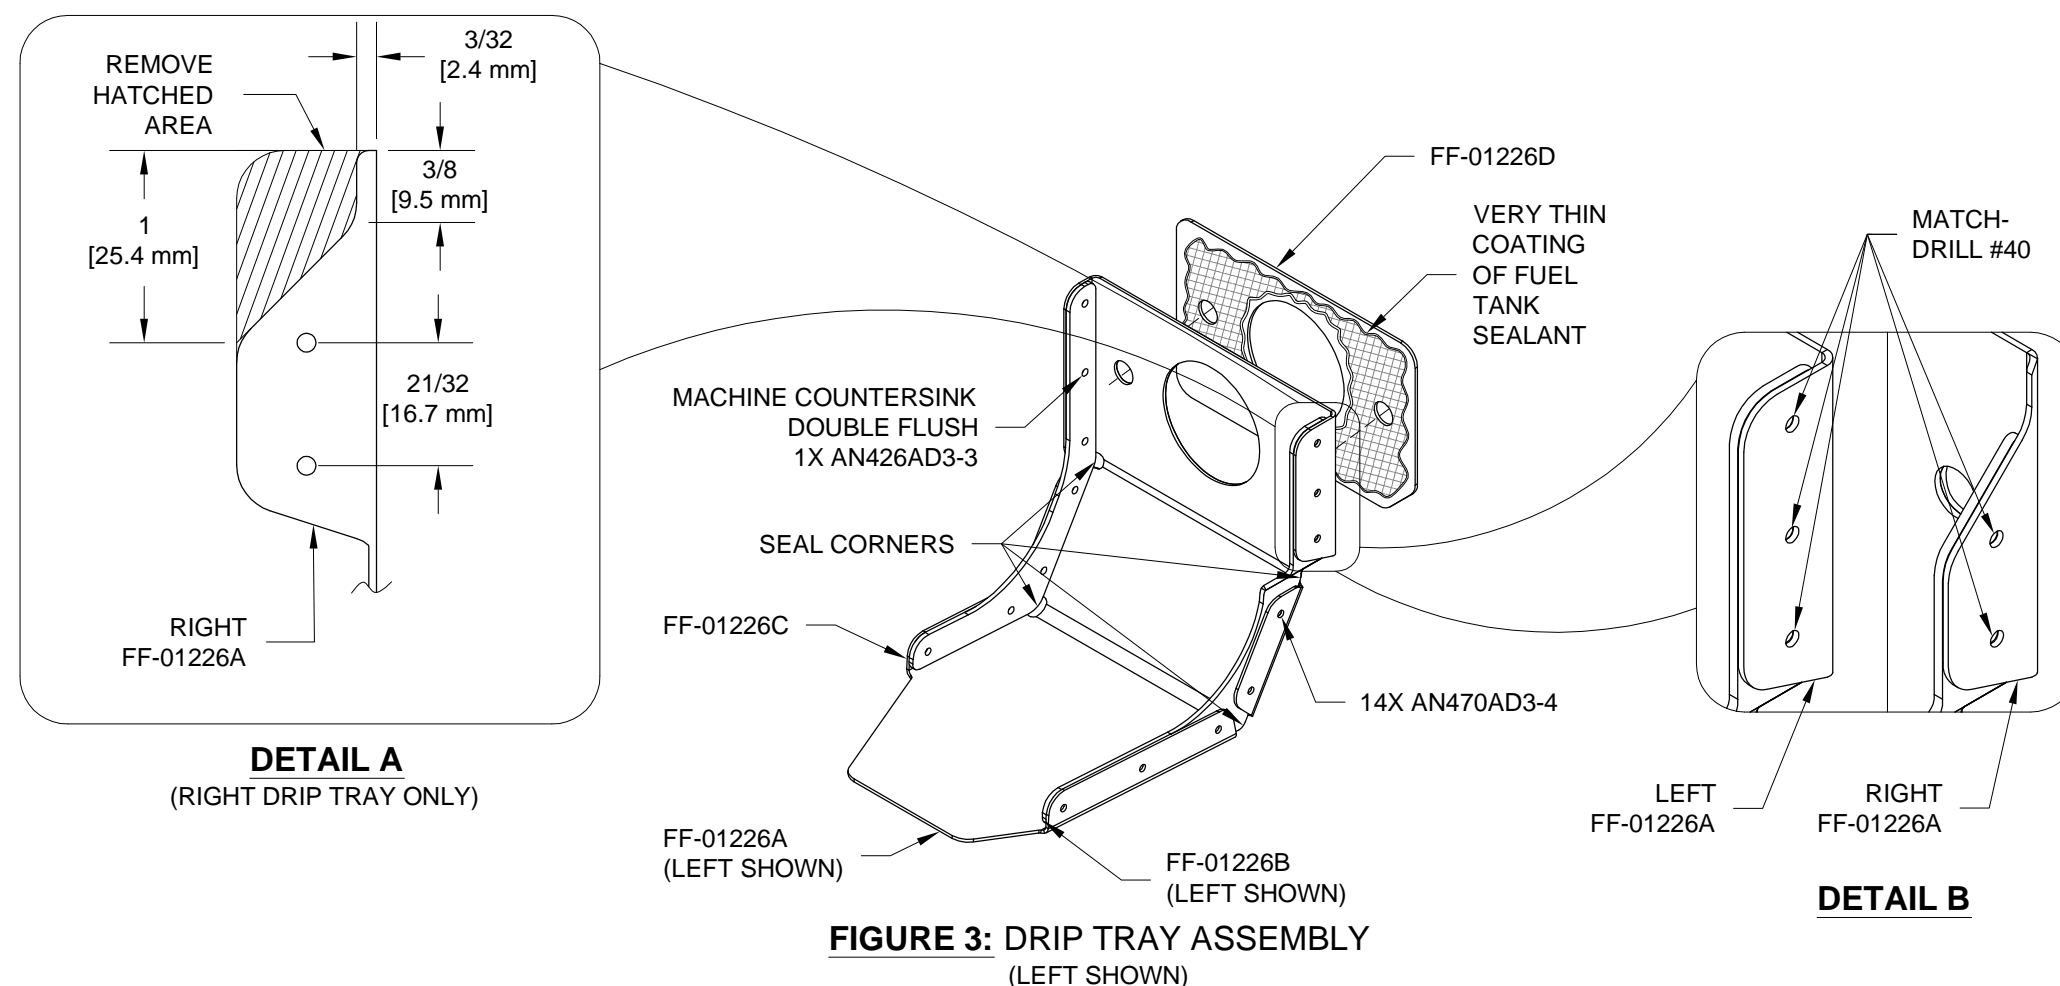

FIGURE 3: DRIP TRAY ASSEMBLY (LEFT SHOWN)
Step 5: Set the single AN426 rivet in both Drip Tray Assemblies as shown in Figure 3. Place the manufactured head of the rivet flush on the outside of both drip trays and the shop head set as close to flush as possible on the interior.
Step 6: Rivet the Drip Tray Assemblies together as shown in Figure 3.
Step 7: Bond one FF-1226D Drip Tray Doubler to each Drip Tray Assembly using fuel tank sealant as shown in Figure 3. Use a temporary 5/16 bolt in each hole to maintain alignment while clamping parts between small wood blocks. If any sealant squeezes out into the holes, wait until the sealant has cured, then peel it away.
Step 8: Seal the corners of the Drip Tray Assemblies with fuel tank sealant as shown in Figure 3.